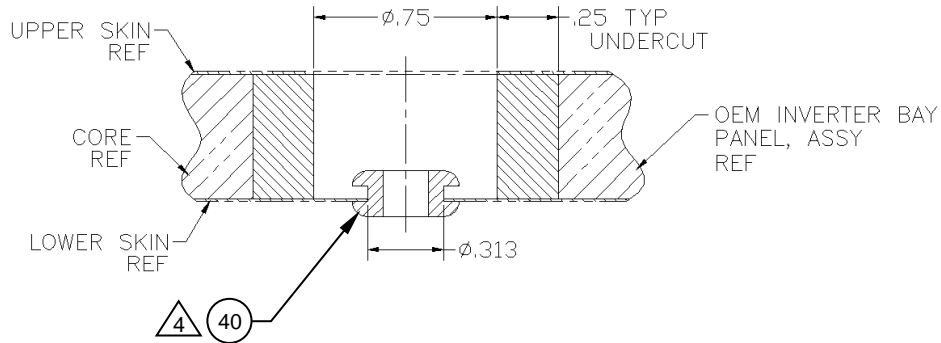

Figure 6
16. Install the Grommets (Item 40) in the lower skin of inverter bay panel as shown. Reference Figure 6.
17. Lead the supplied Wiring Harness, Assy (Item 41) through the appropriate wire holes and associated Grommets (Item 40) in the inverter bay panel keeping the male connector on the inside of the panel. Reference Figure 6.